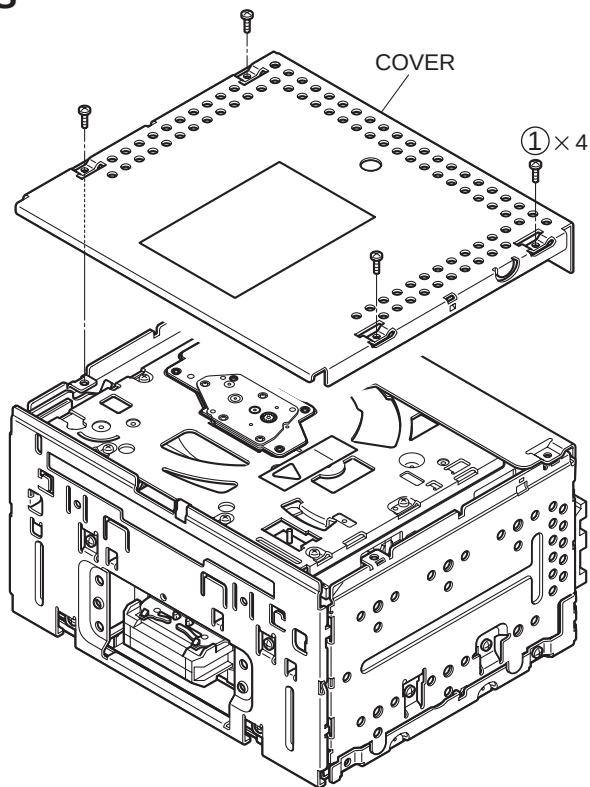

Fig.1
1. Removal of COVER (See Fig.1)